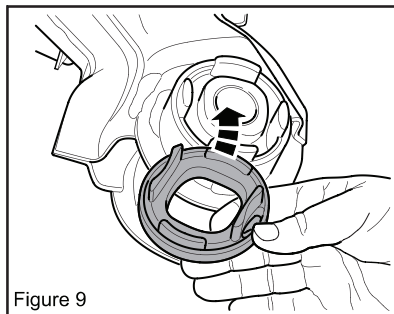
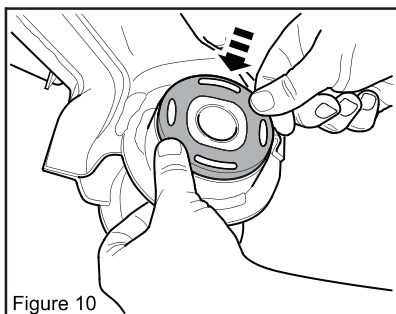

Figure 9
Figure 10
10. Install 67479 bush into the top of the rear cradle OE mount using a small amount of grease supplied. (Figure 9 & Figure 10).